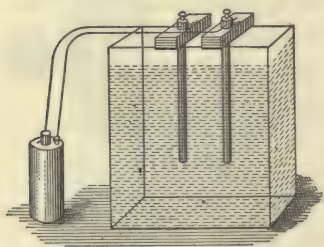

FIG. 82. — Carbon rods in a solution of copper sulphate.
**Chemical effects.** *The plating of gold, silver, and other metals.* — If strips of lead or rods of carbon are connected to the terminals of an electric cell, as in Figure 82, and are then dipped into a solution of copper sulphate, the strip in connection with the negative terminal of the cell soon becomes thinly plated with a coating of copper. If a solution of silver nitrate